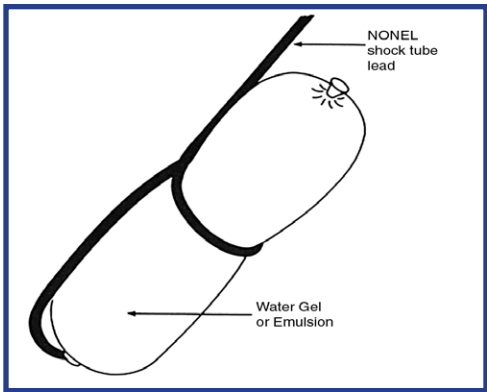

Figure 57 - NONEL assembly with water gel or emulsion.
**For soft package primers**, use a nonsparking powder punch to punch a hole in the primer deep enough for the entire detonator. Fully insert the detonator into the cartridge, then half-hitch or tape the lead around the cartridge (Figure 57).